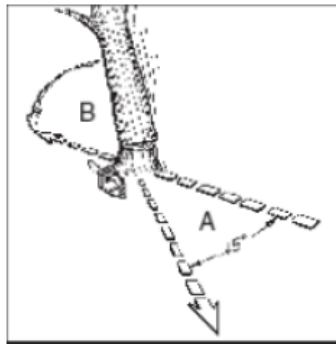

Fig 10a
**Warning:** Before starting to cut, an escape route (A) must be planned and cleared. The escape route must extend backwards and diagonally, in the opposite direction of the fall, as in Fig. 10a.
**Note:** The direction of fall (B) is controlled by the stopper. Before making a cut, study the position of larger branches and the natural lean of the tree to determine the direction of fall of the tree.
**WARNING:** When the felling cut approaches the hinge, the tree should begin to fall. When the tree begins to fall, remove the saw from the cut, stop the engine, put down the chainsaw and leave the area via the escape route (Fig. 10a).